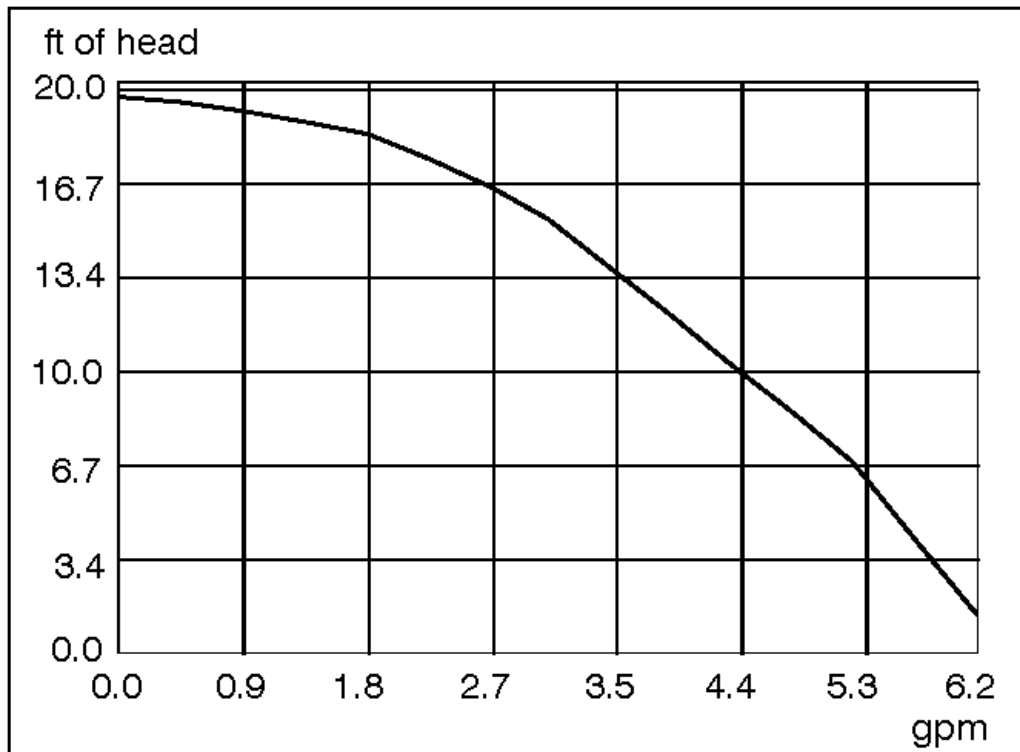

Figure 9.2: Circulator Performance Curve (Adjusted For Pressure Drop Through Boiler)
- 2) Circulator (Included & Required) – This boiler is equipped with a factory piped circulator, which is often the only circulator required. Figure 9.2 is a performance curve for this circulator. Note that this curve has been adjusted to take into account of all internal boiler piping. This performance curve therefore shows the amount of flow that can be achieved at various heating system pressure drops.